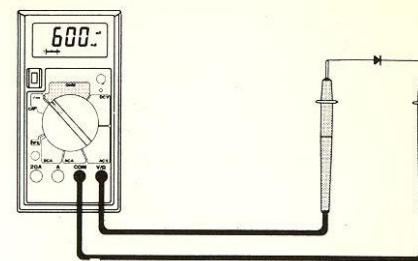

Fig. 5-7 Diode measurement
2. Set the function switch to the  $\rightarrow \text{diode symbol}$  range and connect the test leads across the diode under measurement. See Figure 5-7.